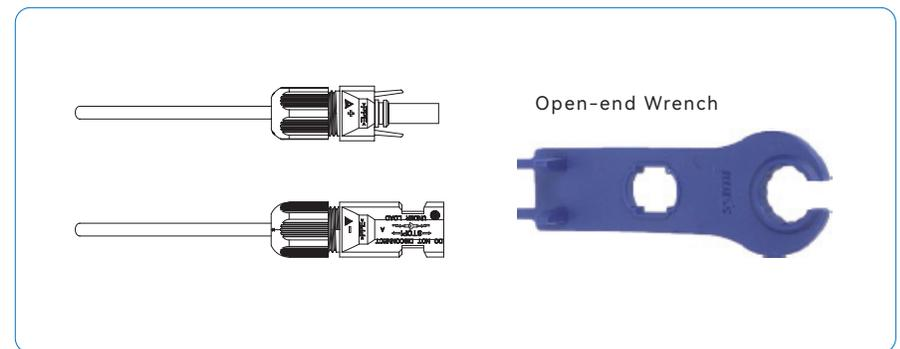

Figure 5-8
6) Use an open-end wrench to screw the nut to the end to ensure that the terminal is well sealed, as shown in Figure 5-8: